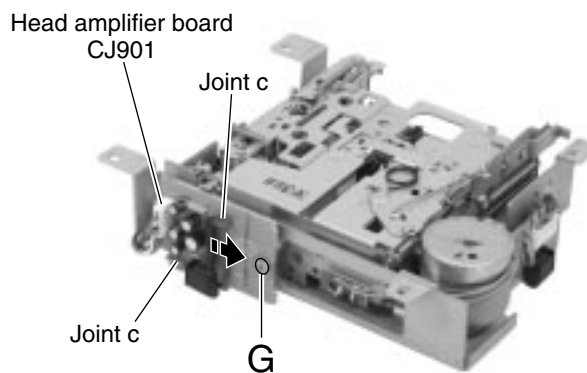

Fig.10
(See Fig.10)
1. Raise the part **k** of the reel base assembly slightly and remove the selector link (B) on the front side of the cassette mechanism assembly by turning it as shown in Fig.10.